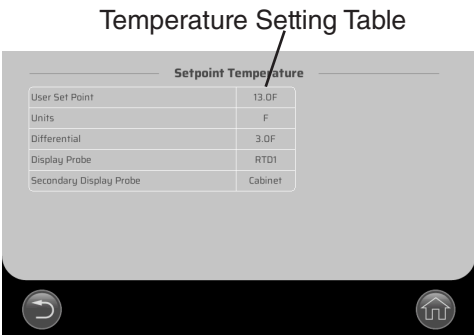

Fig. 9
- b) Press and release the center of the RTD1 probe temperature display again. The temperature setting table is shown. See Fig. 9.